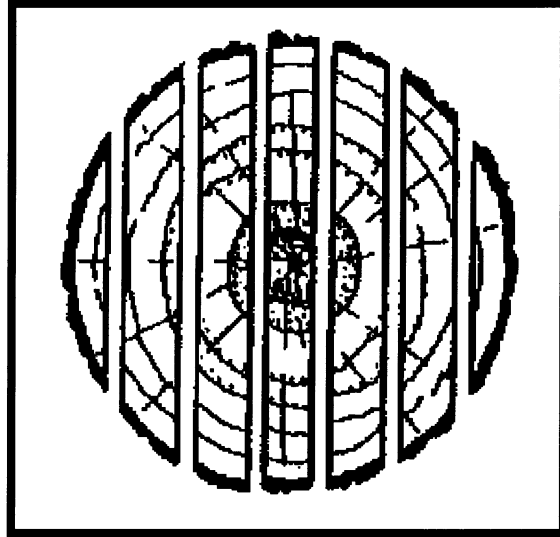

Figure 2.4
2.4 Figure 2.4 shows a sketch of a method of conversion: